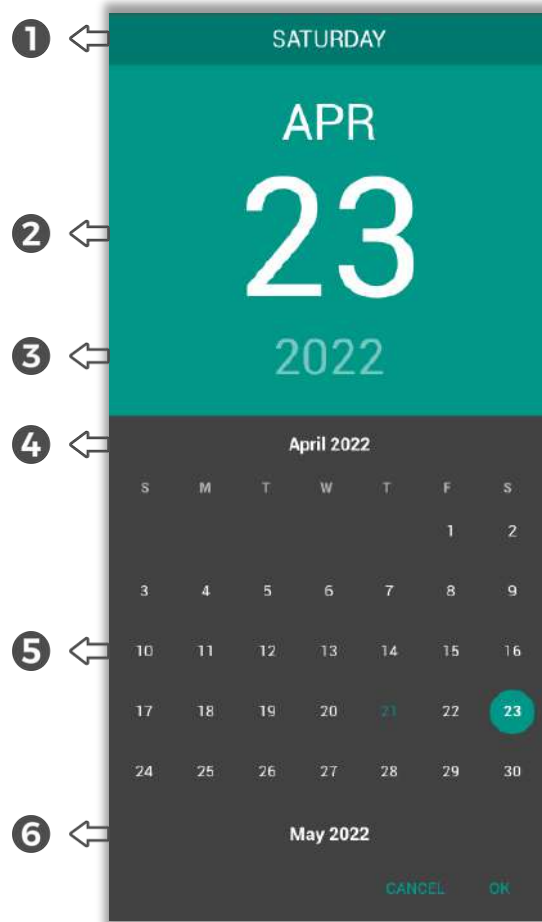

Fig. 58 : Calendar Window
- 2 By pressing this touch button, the Date Info is set. When the button is pressed, the calendar window appears on the screen (Fig. 58).